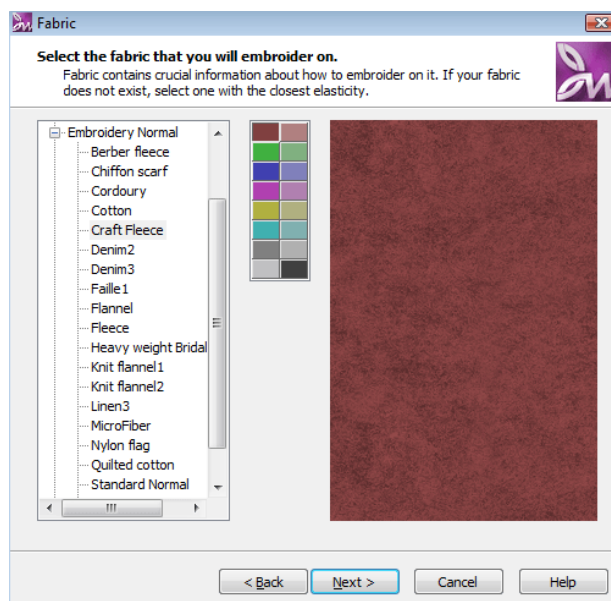

Figure 2.26: Select fabric dialog
22. The **Fabric** dialog will appear (Figure 2.26). Expand the **Embroidery Normal** category from the list by clicking on the + icon next to it.